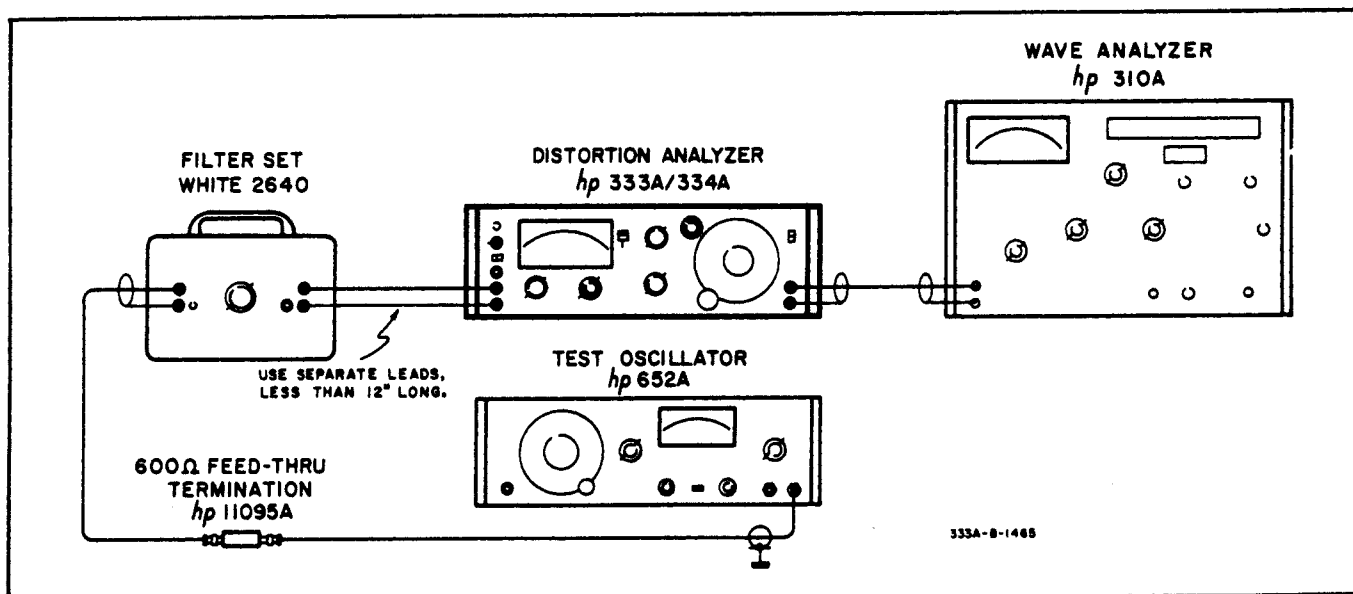

Figure 5-2. Fundamental Rejection Check
- a. Connect test equipment to 333A/334A as shown in Figure 5-2. Set filter pass frequency to 500 Hz.